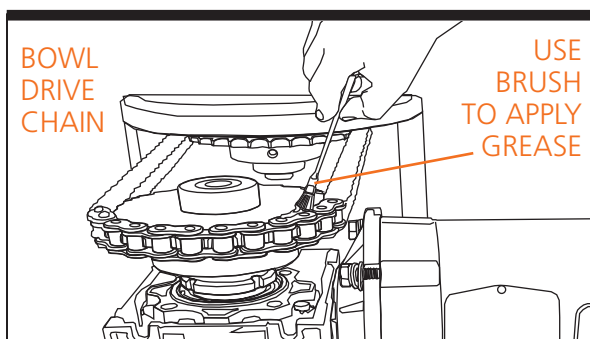

Figure 4-3. Lubricate Chains
- ➡ Refill to the correct level with a recommended gear oil (see Fig. 4-3). Clean the reducer vent plug and inspect that mounting bolts are secure.
Step 2—Inspect Drive Chain. Midway between the sprockets, grasp the chain and move it back and forth. You should not be able to move it more than 1" (25mm) in either direction. If it moves more than 1", adjustment is required (see Figure 4-3.) If an adjustment is needed:
Step 3—Adjust Vertical Runout. Attach a dial indicator to the inside of any upper frame support. Set the indicator contact point vertical on the rim of the bowl, up to 1/4" (6 mm) from the bowl's upper inside diameter (ID). Loosen jam nuts and locknuts above and below each arm of the bowl spider one arm at a time. Repeat as often as necessary while checking runout. Do not tighten jam nuts until Step 4.
Step 7—Replace Chain & Covers. Install bowl drive chain. Inspect chain tension (refer to Figure 4-3). Replace covers and re-connect power and air.
ANSI Only: Unpack the new reducer. Leave rubber sleeves on shafts to protect your hands from any sharp edges on the keyways. Fill the new reducer to the correct level with gear oil (refer to Figure 4-3 on page 19). Keep the reducer upright as you install it, or the breather hole may leak.